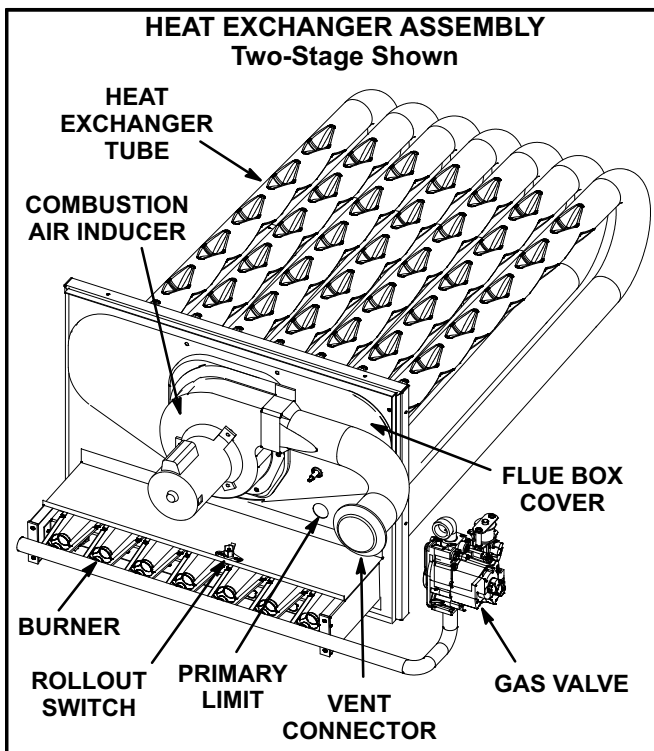

FIGURE 30
Limit controls are factory-set and are not adjustable. The primary limit is located to the right of the combustion air inducer. See figure 30.
- 4- Remove and retain screws securing combustion air inducer to flue box. Remove vent connector. See figure 30.